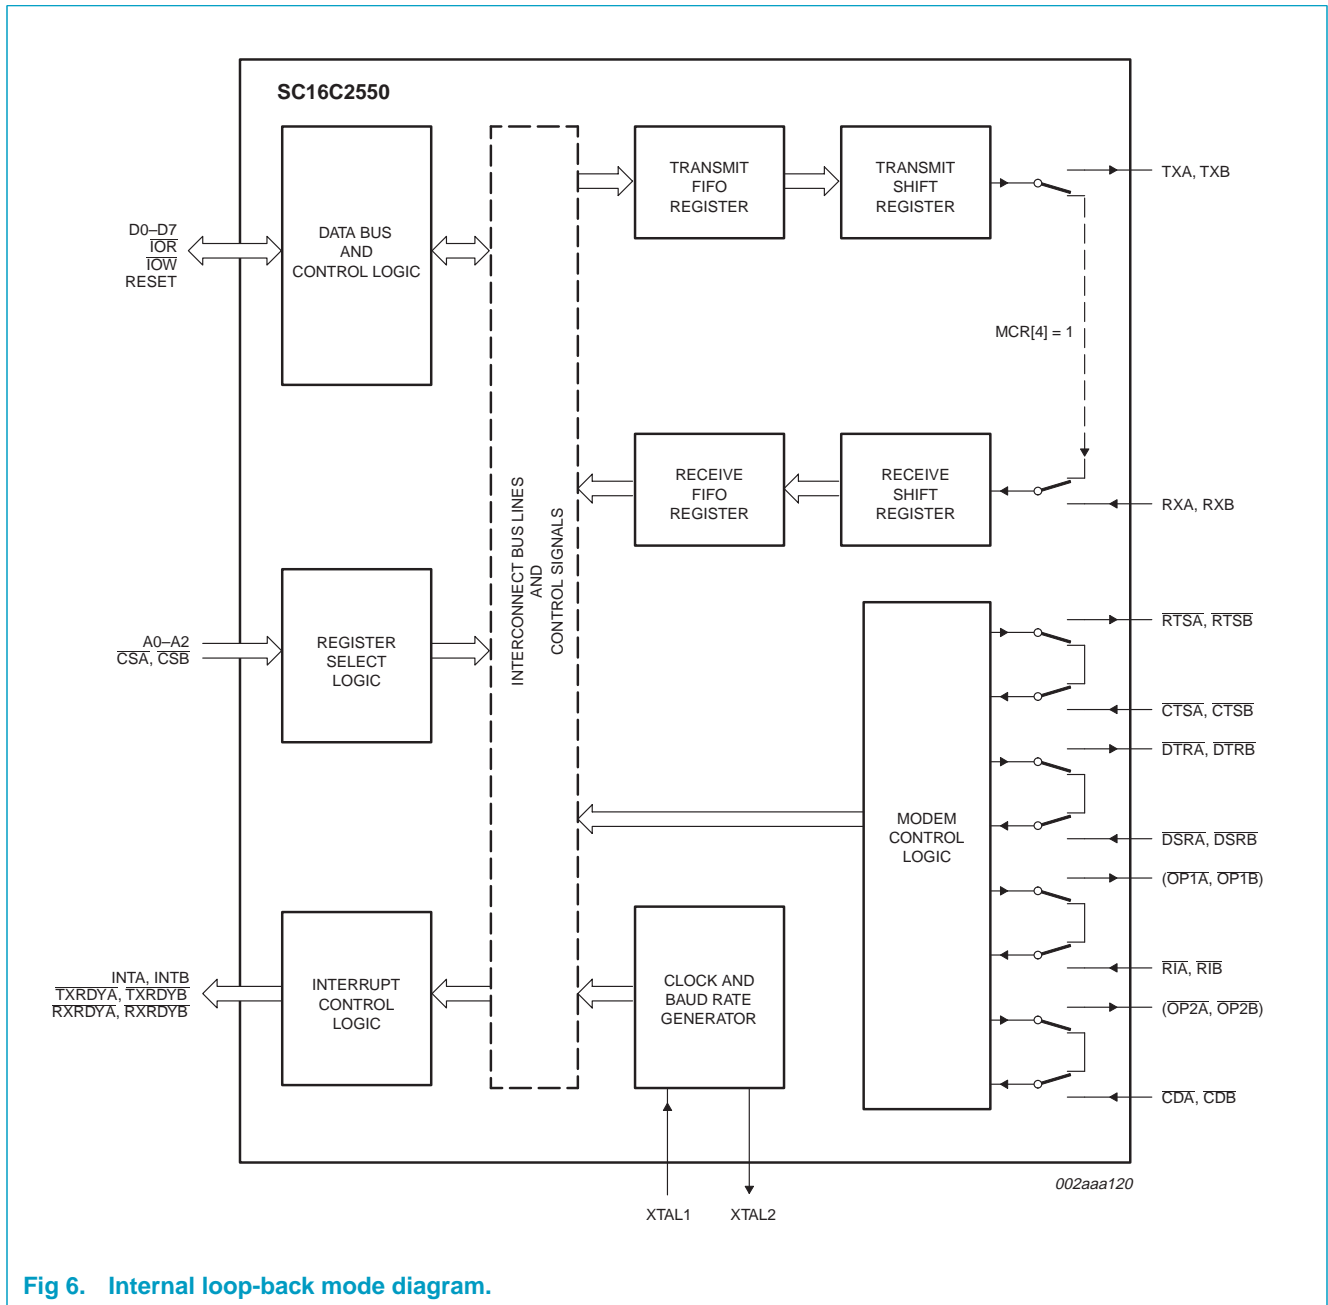

Fig 6. Internal loop-back mode diagram.
The internal loop-back capability allows on-board diagnostics. In the loop-back mode, the normal modem interface pins are disconnected and reconfigured for loop-back internally (see Figure 6). MCR[0-3] register bits are used for controlling loop-back diagnostic testing. In the loop-back mode, the transmitter output (TX) and the receiver input (RX) are disconnected from their associated interface pins, and instead are connected together internally. The CTS, DSR, CD, and RI are disconnected from their normal modem control inputs pins, and instead are connected internally to \overline{RTS} , \overline{DTR} , MCR[3] ($\overline{OP2}$) and MCR[2] ($\overline{OP1}$). Loop-back test data is entered into the transmit holding register via the user data bus interface, D0-D7. The transmit UART serializes the data and passes the serial data to the receive UART via the internal loop-back connection. The receive UART converts the serial data back into parallel